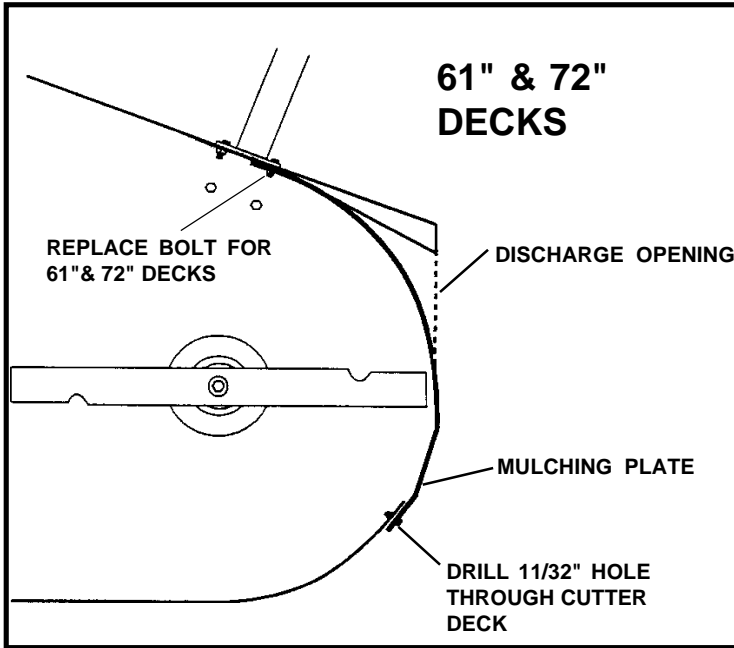

Figure 3
2. **On 61" deck:** Remove the lower bolt closest to the discharge chute securing the right hand caster support to the side of the cutter deck. (See Figure 3, Page 6).
2. **On 72" deck:** Remove the lower bolt closest to the discharge chute securing the right hand caster support to the side of the cutter deck. (See Figure 3, Page 6).